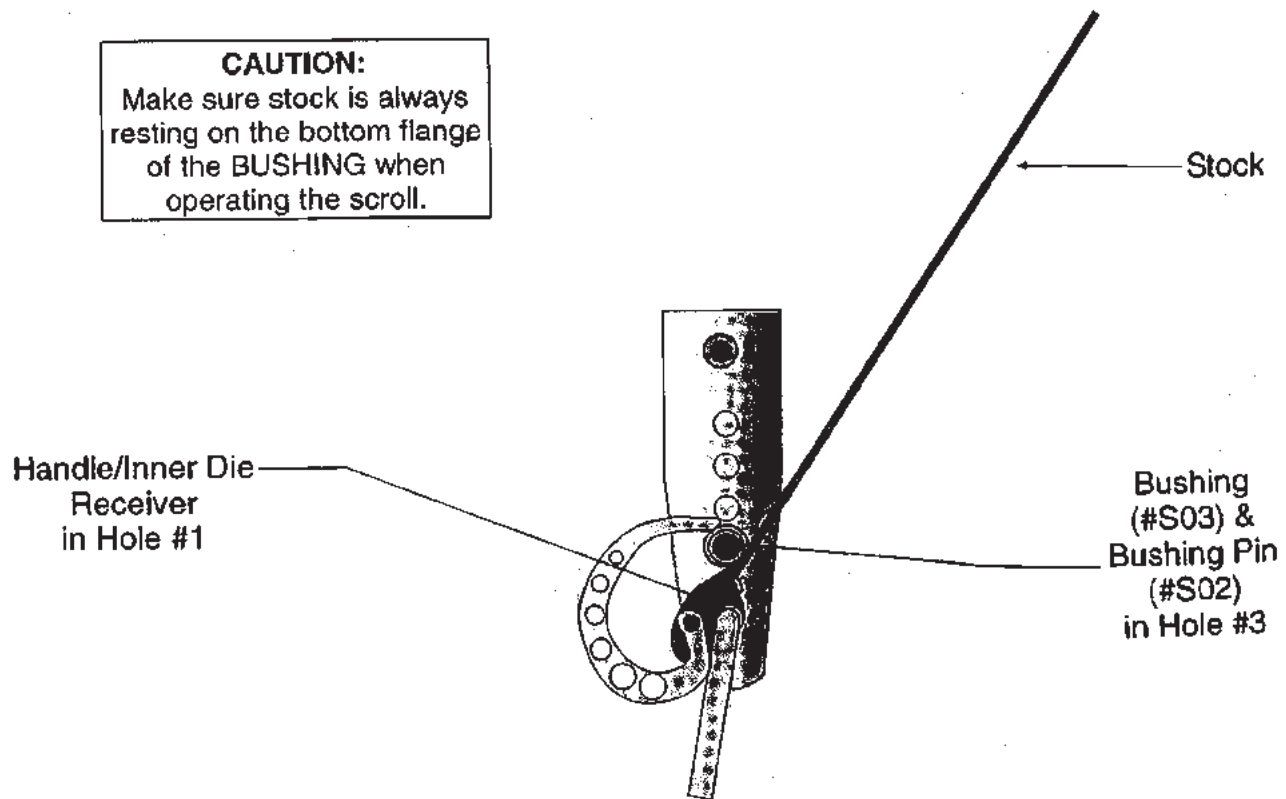

Figure 4 -- Starting the Scroll
Step 2: Make sure the HANDLE/INNER DIE ASSEMBLY (#S01) is in Hole #1 (the innermost) of the RING SPACER/DIE RECEIVER as shown in Figure 4.